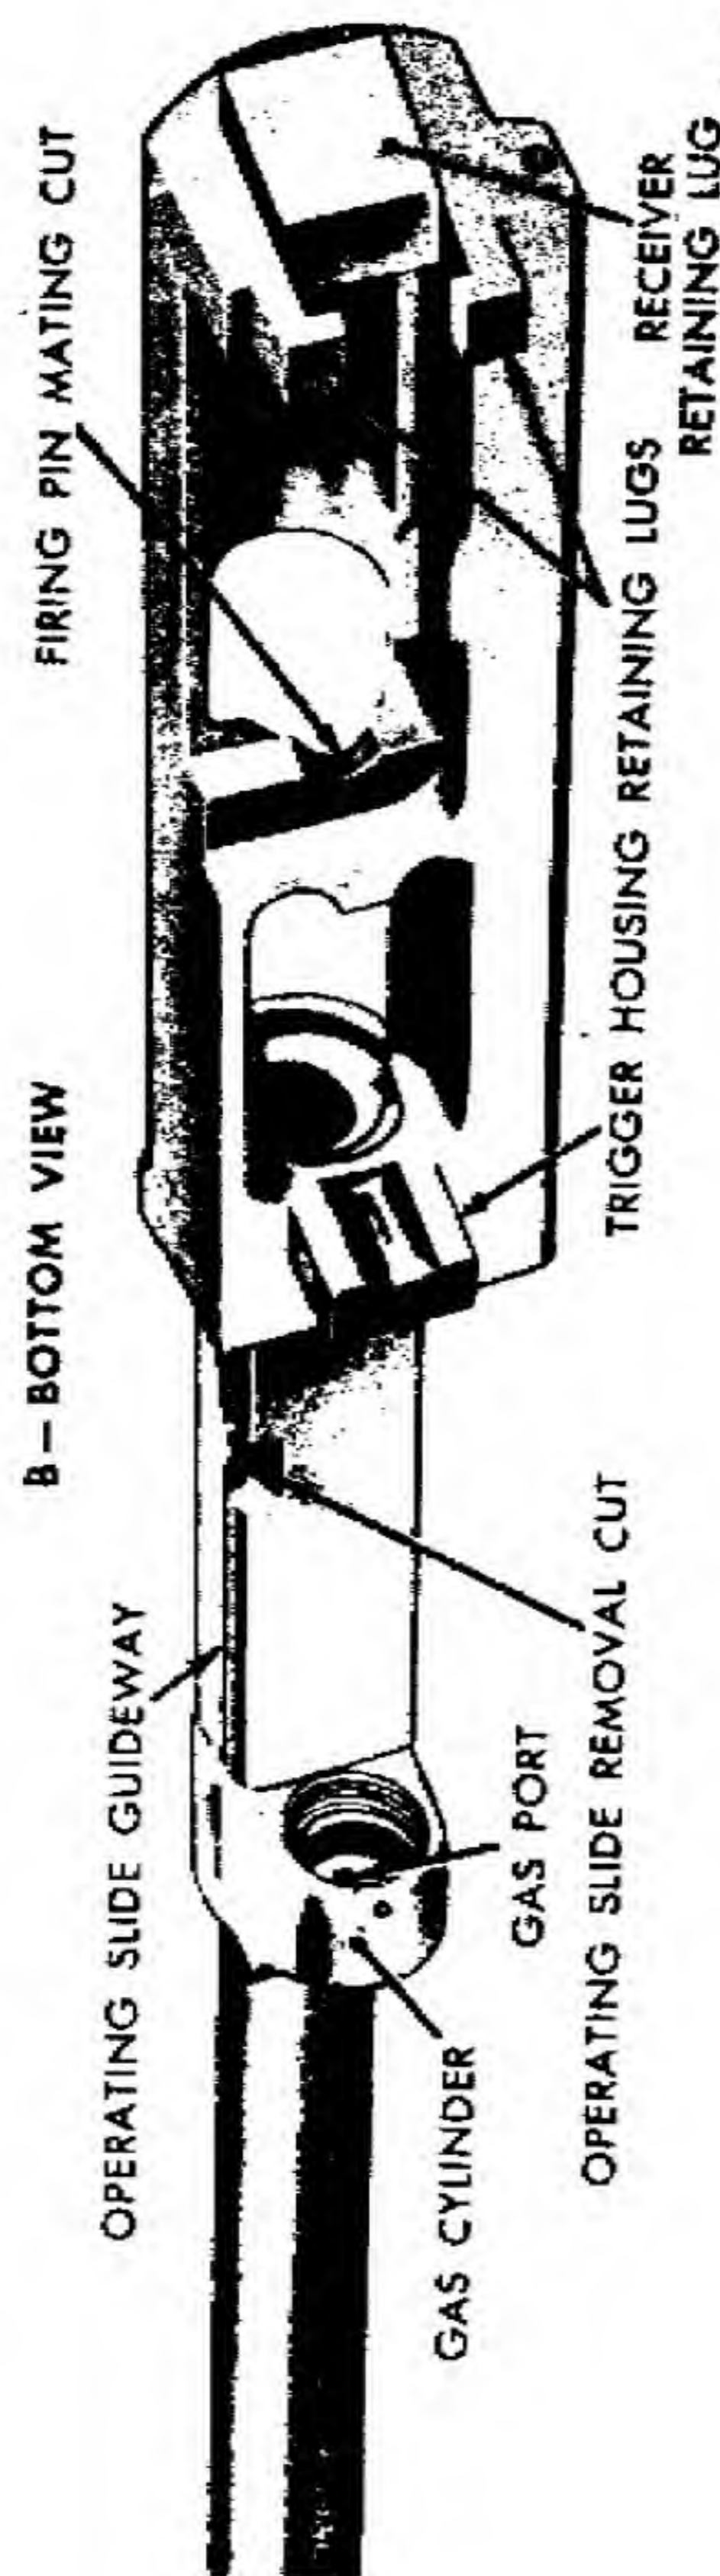

Figure 78. Barrel and receiver group—points of inspection.
- (1) Inspect operating slide spring well for rust or foreign matter. Visually inspect receiver for break-through of the operating slide spring hole. This break-through occurred in the original manufacture of some receivers because of the drill running out through either the bottom or right-hand exterior surfaces. If the forward end of the break-through is 3 inches or more from the front end of the receiver, it is acceptable; otherwise, it must be rejected (DEPOT MAINTENANCE ONLY). Any sharp or feather edges around this break-through are to be removed.
- (2) Inspect receiver under "black light" (Magnaglo or approved equal) for cracks in the area around the bolt locking slot at the right hand side and at the front and rear trigger housing retaining lugs (DEPOT MAINTENANCE ONLY). Receivers having cracks extending in both directions around a corner must be rejected.
- (3) Visually inspect condition of firing pin retracting cam mating cut in the bridge of receiver (fig. 78). This cam was cut to an angle of  $33^\circ$  in the earlier manufacture of receivers and later to  $45^\circ$ . Both are acceptable if in good condition.
- (4) Visually inspect trigger housing retaining pinhole in the receiver. If out-of-roundness is apparent, reject the receiver (DEPOT MAINTENANCE ONLY).
- (5) Inspect the bullet ramp in the receiver to assure it is clean and smooth for proper feeding of the ammunition. Burrs and sharp edges should be removed by careful polishing with fine emery cloth. The lower edge of the bullet ramp (where the angular surface intersects the vertical) should be smoothly rounded.
- (6) Inspect receiver for looseness with barrel, deformation, rust and burrs. If receiver is disassembled from barrel, inspect for worn or crossed threads in barrel aperture (DEPOT MAINTENANCE ONLY).
- (7) Inspect bolt guideway and locking shoulders for wear, burrs, cracks, and foreign matter. Inspect receiver retaining lug on rear end (figs. 78 and 105) for wear, burrs, and looseness with recoil plate when assembled to stock.
- (8) Inspect operating slide guideway on right side for wear, burrs, and foreign matter, and operating slide removal cut for wear and burrs. Inspect operating slide stop detent aperture for wear, burrs, and foreign matter. Forward surface of aperture should be at a sharp right angle to receiver, and with a clean edge to facilitate retention of stop, and rear face smooth and sloping to facilitate camming. Inspect the rear inside face of receiver for foreign matter.